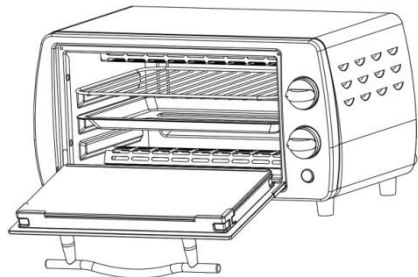

Fig. 4
- Where to fit the baking tray and rack – See fig 4
- If placing food directly onto the grill rack, fit the baking tray into the lower oven rack rest to act as a drip / crumb tray (fig. 4).